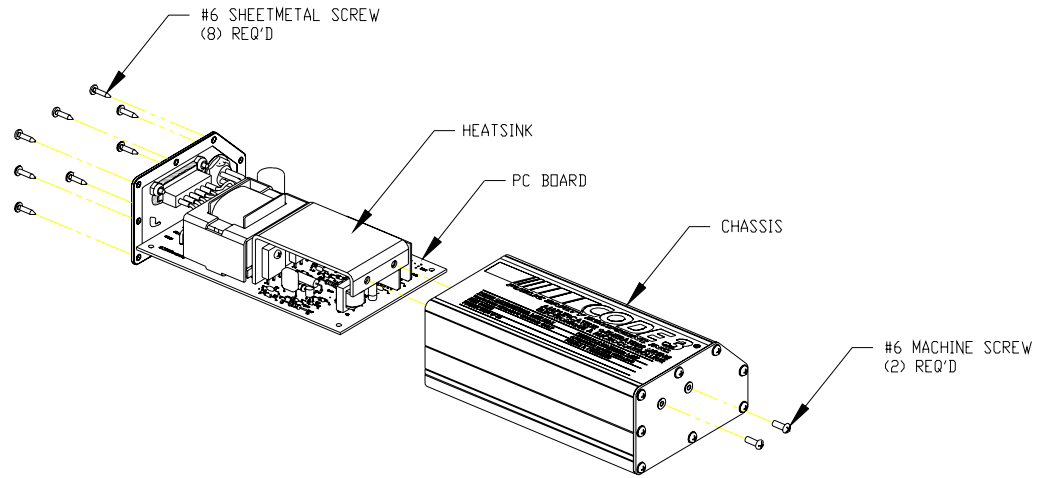
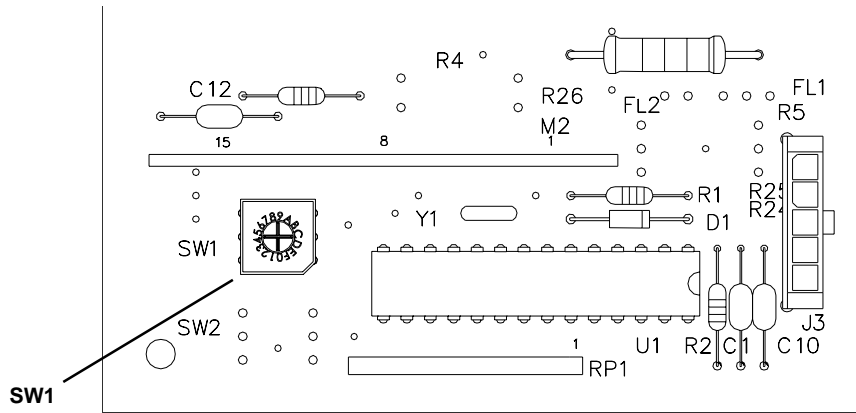

Figure 2, Disassembly
Figure 3, 16-Position Rotary Switch
The 4000 Series of Sirens is designed to be mounted inside a light bar or inside the vehicle. Do not mount the siren inside the engine compartment. Mounting hardware is supplied (see Fig. 2) for mounting the amplifier inside the light bar.
**Tone Selection** - Referring to Figure 2 and Figure 3 and the Siren Tone Chart, Figure 4, set the 16 position rotary switch SW1 (located inside the siren) to the number which corresponds to the desired tone. Unless otherwise specified at the time of order, the default setting is 0 (Police).